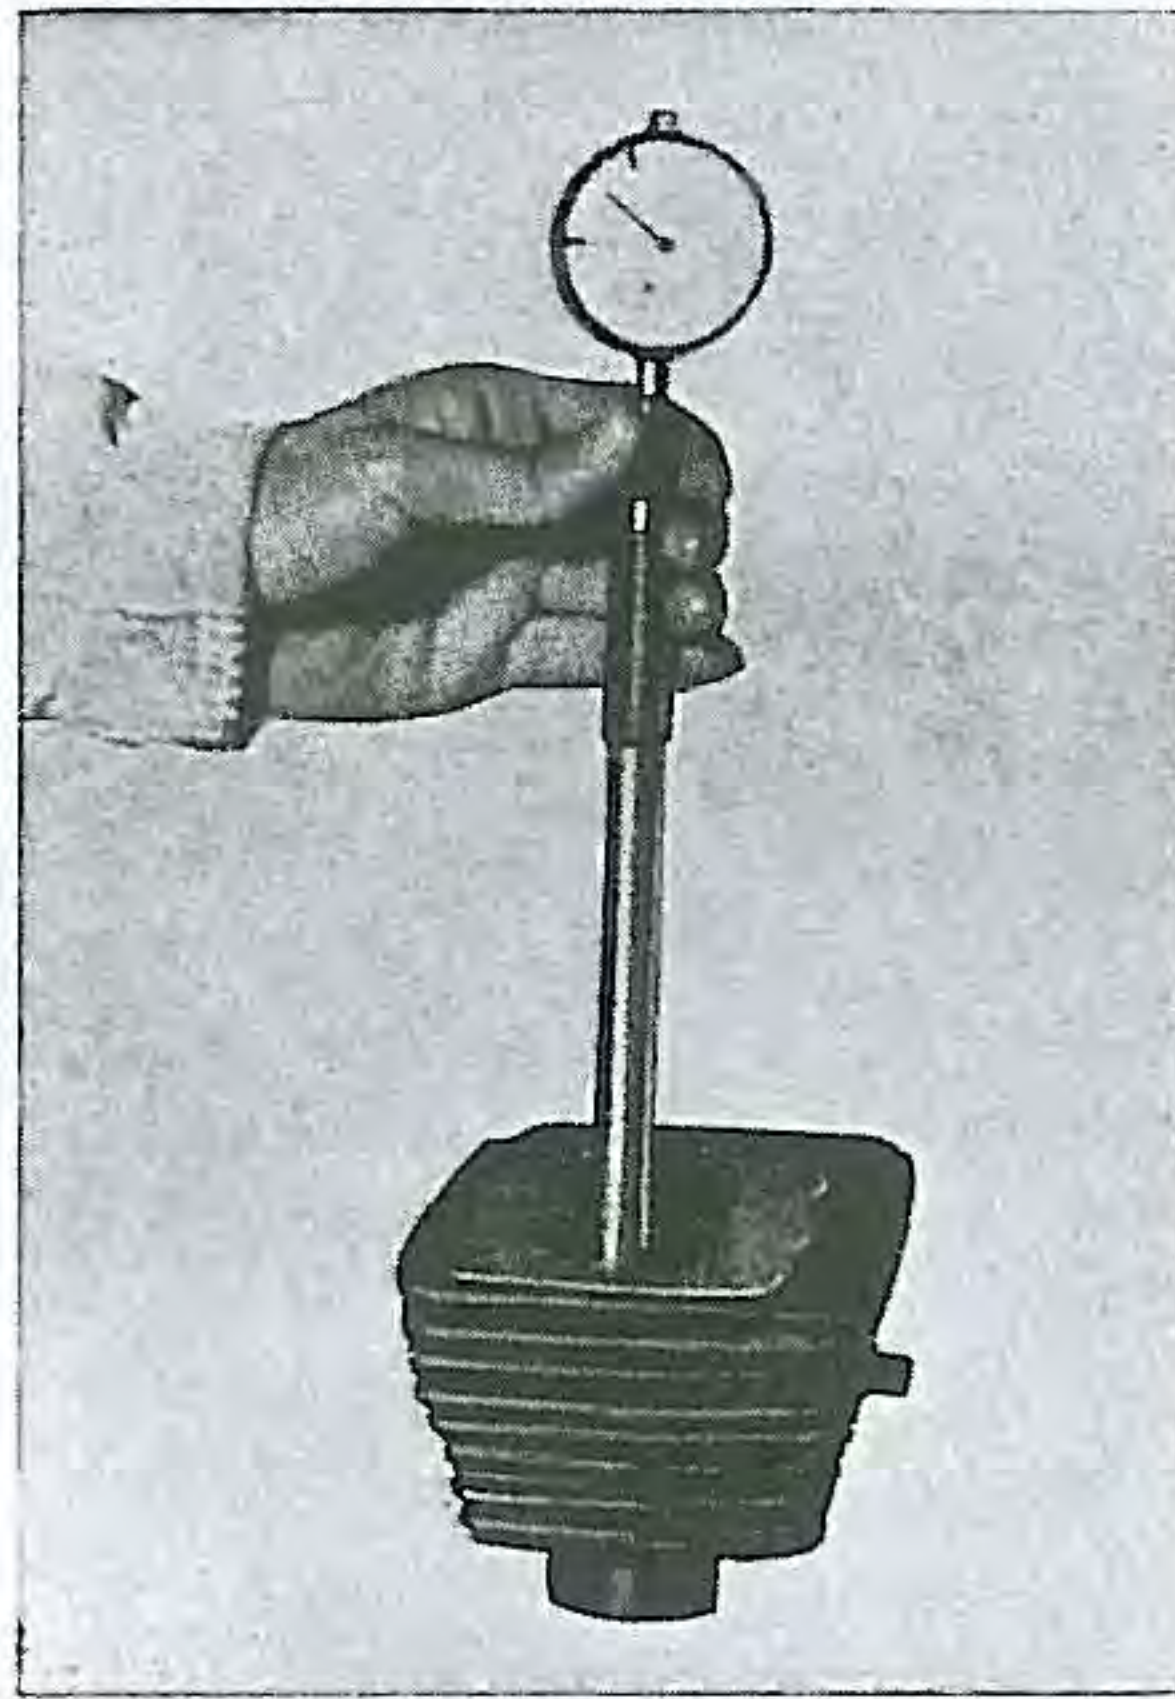

Fig. 54. Measuring cylinder bore
- (1) Remove all carbon deposits from the crown and grooves of the pistons.
- (2) Check the flatness of the cylinder bore with a straight edge and the bore with a gauge. Rebore or recondition the cylinder if it is marred by 0.002" (0.05 mm) or more.
- (3) Check the cylinder bore for roundness and taper with a cylinder gauge and rebore or recondition if it does not conform to the specifications. (p. 155) (Fig. 54)
- (4) If the cylinder bore is scored or tapered or out of round less than of 0.002" (0.05 mm) it may be honed to enable new piston rings to seat properly. If the cylinder is damaged more than this, it must be rebored.